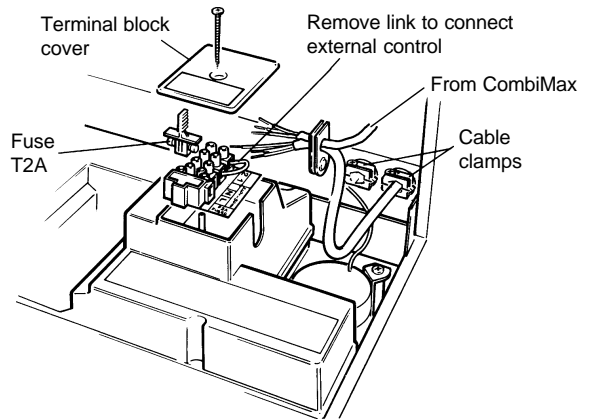

Fig. 11
2. Remove the screw securing the terminal block cover from the back of the boiler control box as shown in Fig. 11. Route the cable provided from the CombiMax terminal block to the boiler (see Figs. 9 and 10) and connect to the boiler terminal block via the grommet as shown in Fig. 11. Refer to section 2.4 for connection details. The boiler main terminal block can be removed by pulling it off the pins to give easy access to the terminals. Do not switch on the electrical supply at this stage.